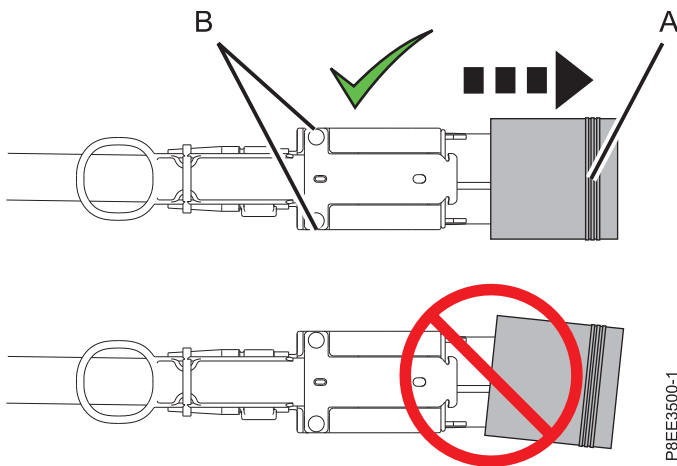

Figure 18. Removing the protective cover from the connector on the expansion drawer cable
- b. Remove the protective cover from the connector on the expansion drawer cable. Hold the cable housing (B) on the short edges with the index finger and thumb on one hand. Then, grasping the cover on the long edge (A) with the index finger and thumb on the other hand, pull the protective cover off. See Figure 18.